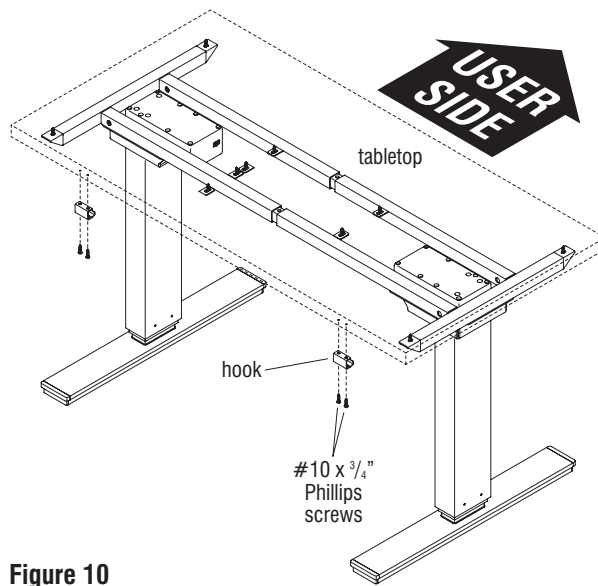

Figure 10
1. Carefully turn table to the upright position (Figure 10).
2. Position one hook underneath the back, non-user side of the tabletop at the pre-drilled location as illustrated in Figure 10 & Detail H. Orient the hook to face the user side of the table. Align the mounting holes of the hook with the pre-drilled holes underneath the tabletop and secure using two #10 x 3/4" Phillips screws. Repeat this process to secure the remaining hooks to the table (Figure 10 & Detail H).